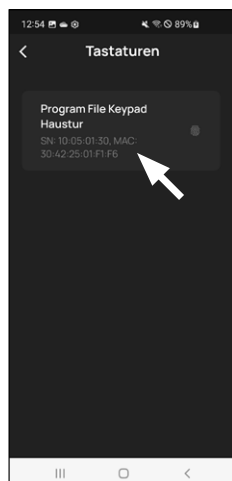

Fig. 7
⑧ Select the required keypad (Fig. 7).